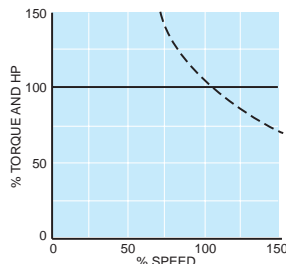

Figure 22. Constant Horsepower
2. Constant Horsepower (Figure 22)